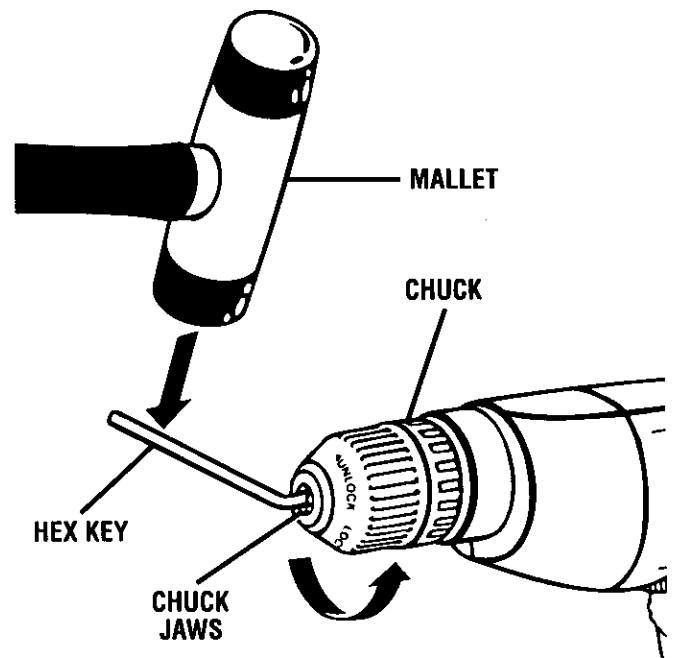

Fig. 10
See Figure 10.
- Tap the hex key sharply with a mallet in a counterclockwise direction. See Figure 10.
- It can now be unscrewed by hand. See Figure 10.